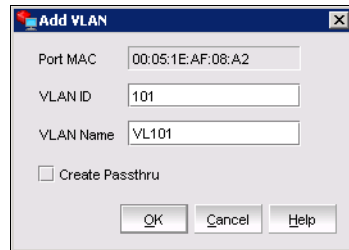

Figure 10-44 Add VLAN dialog box
3. Click **Add** on the VLAN Configuration dialog (Figure 10-44). The Add VLAN dialog displays.